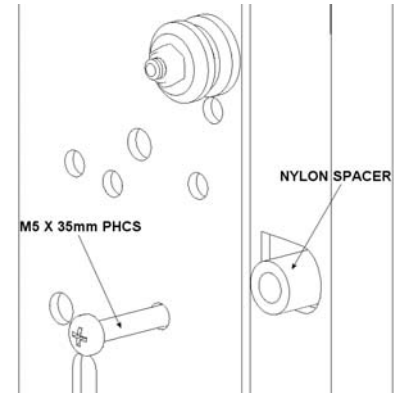
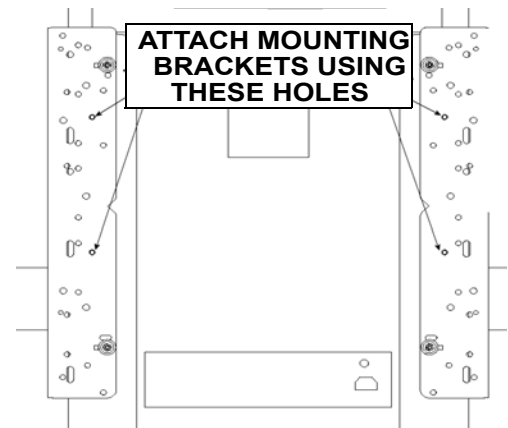

Figure 34. Spacer Installation for Group 12
Figure 35. Spacer Location for Group 12
3. Place the Nylon spacers over the four mounting holes on your Large Flat Panel display (see Figure 34).
4. Place the interface brackets over the Nylon spacers (see Figure 34 and Figure 35).
6. Using the hardware from parts bag E, attach the interface brackets to your Large Flat Panel display (Figure 34 and Figure 35). Do not overtighten the mounting screws.